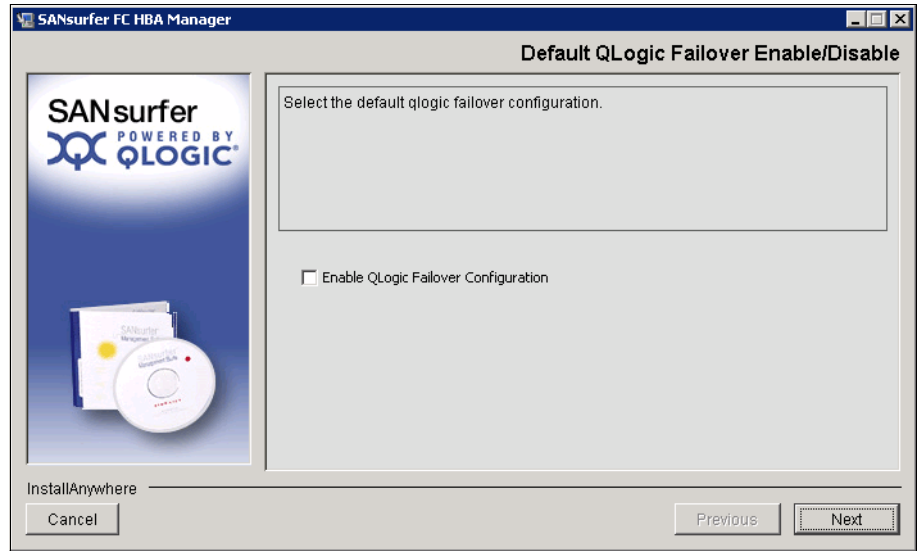

Figure 7-69 Default QLogic Failover Enable/Disable panel
- In the Default QLogic Failover Enable/Disable panel (Figure 7-69), do not select **Enable QLogic Failover Configuration** because most SAN vendors have their own redundant drivers. For more information about the redundant driver, see the documentation provided by your SAN vendor. Then click **Next**.